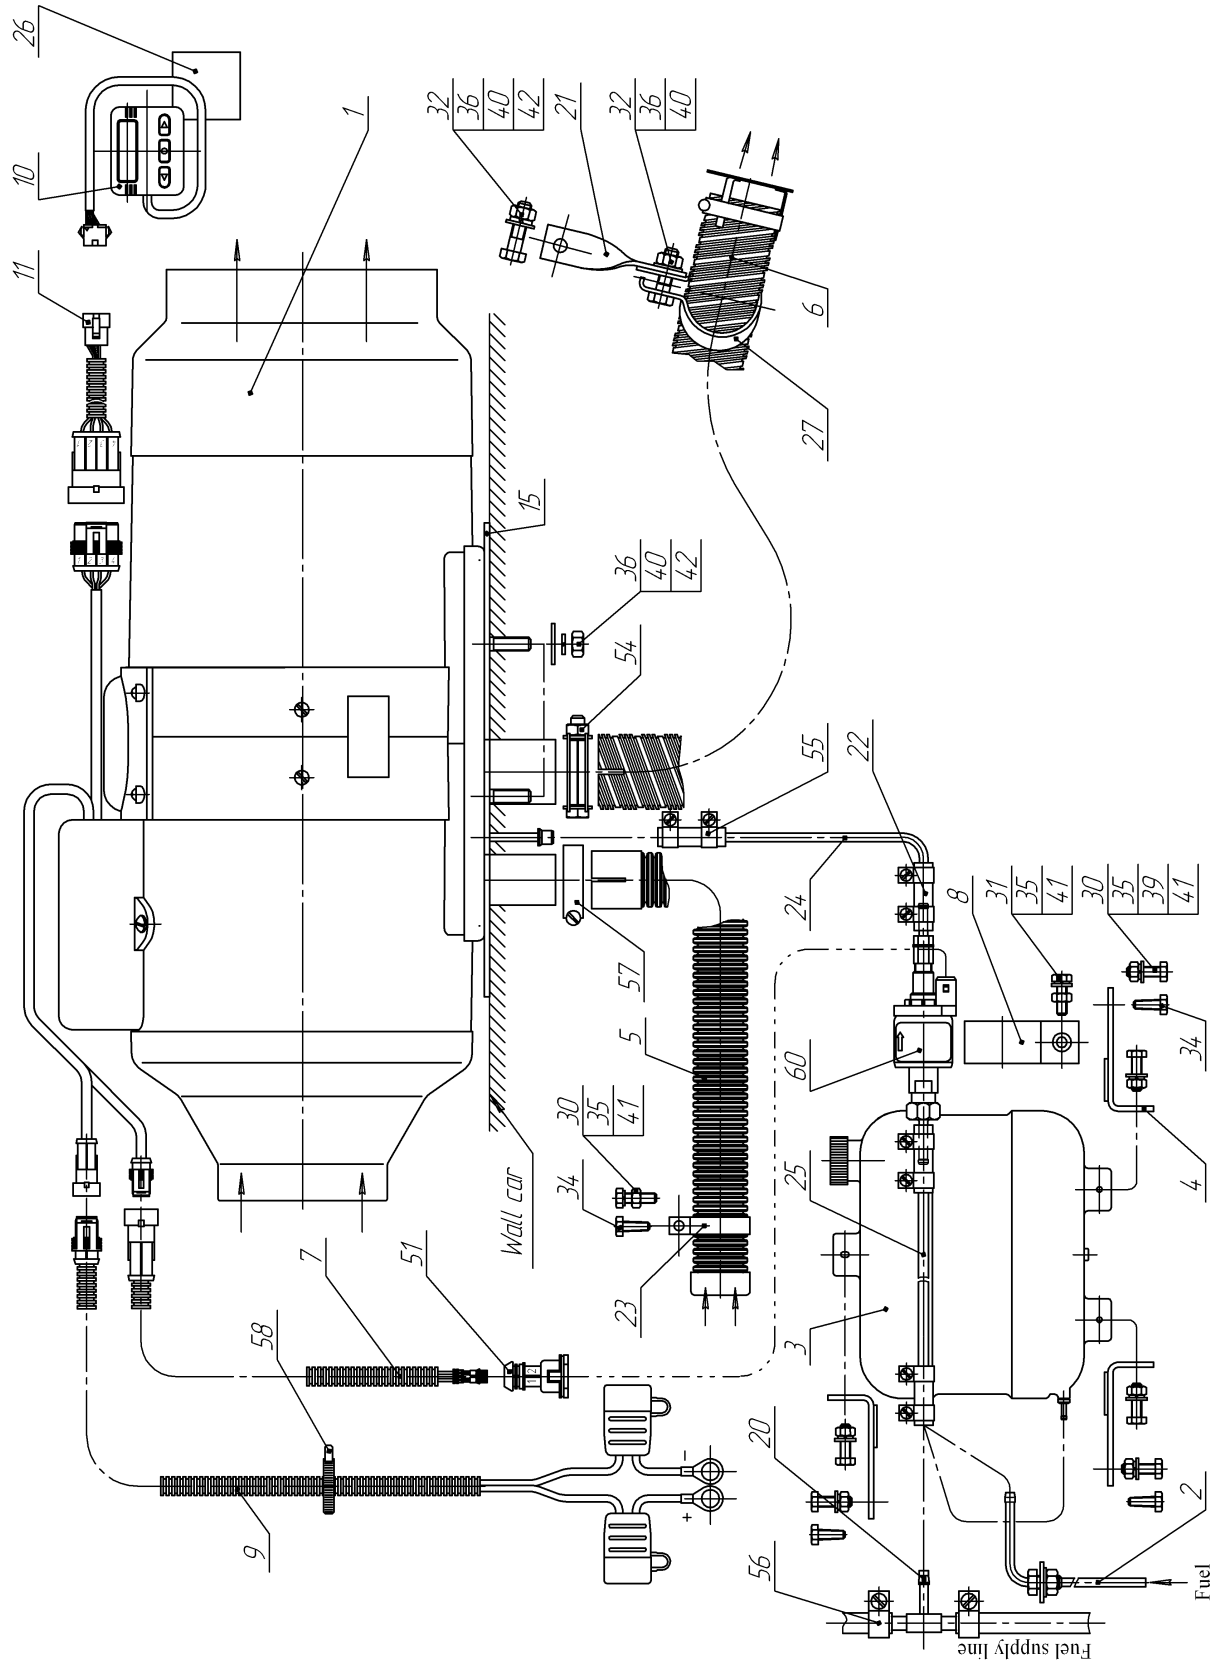
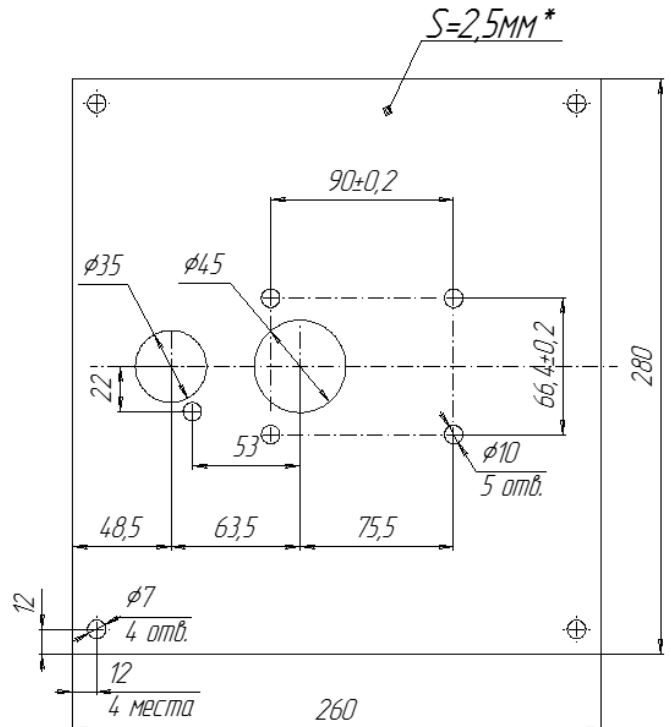

Figure 7.1 – Connection diagram of basic heater components
Figure8.3 Mounting plate
See figure 7.1 for scope of supply and connection diagram of basic heater components PLANAR-8DM-12, PLANAR-8DM-24, PLANAR-8DM-12-TM, PLANAR-8DM-24-TM. For list of basic heater components, see table 7.1. True packing arrangement see in the packing list.
2. to attach sealing plate to the heater see figure 7.1 (this plate is possible to be made of steel sheet with min thickness 2.5 mm see figure 8.3)